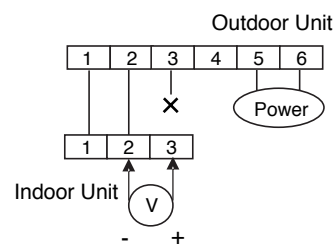

Fig. 2
2. Disconnect the cable from the terminal 3 on the indoor unit terminal strip. (Fig. 2)